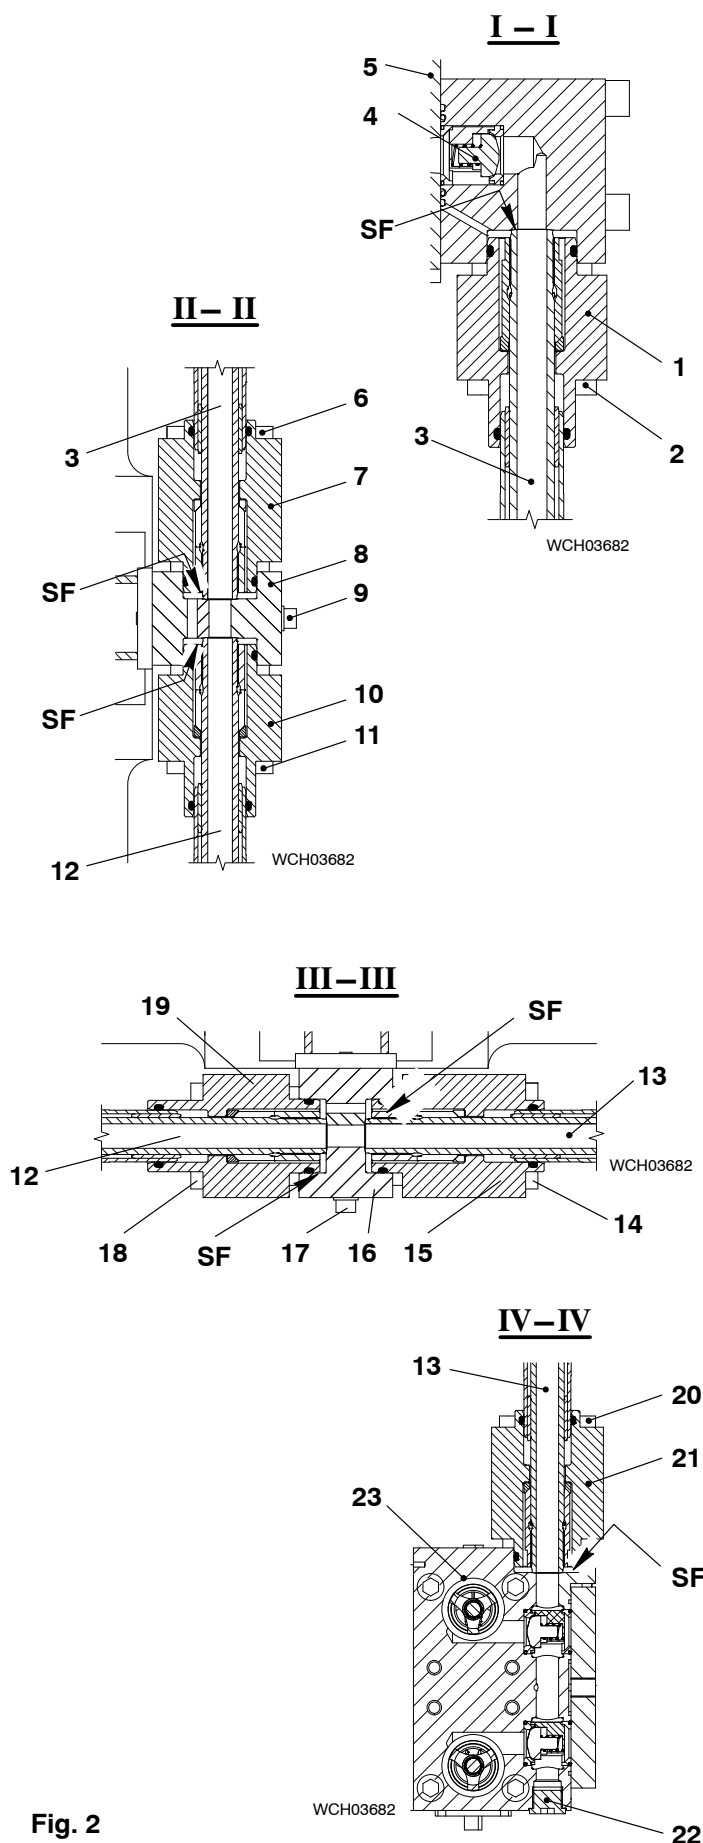

Fig. 2
- 4) Loosen the screw plug (22, Fig. 2) to drain the HP servo oil pipes (3, 12 and 13).
- 5) On the flange (1), loosen the four screws (2).
- 6) Push down the flange (1) to get air into the HP servo oil pipe (3).
- 5) Remove the two screws and washers (17) from the intermediate piece (16).
- 6) Carefully remove the HP servo oil pipe (13).
- 7) Apply protection to the sealing faces (SF) to prevent damage.
- 8) Remove the four screws (18) from the flange (19).
- 9) Move the flange (19) away from the intermediate piece (16).
- 10) Remove the intermediate piece (16).
- 11) Remove the four screws (11) from the flange (10).
- 12) Move the flange (10) down.
- 13) Carefully remove the HP servo oil pipe (12).
- 14) Apply protection to the sealing faces (SF) to prevent damage.
- 15) Loosen the two screws (9, Fig. 2) on the intermediate piece (8).
- 16) Remove the four screws (6) from the flange (7).
- 17) Move the flange (7) up.
- 18) Remove the four screws (2) from the flange (1).
- 19) Carefully remove the HP servo oil pipe (3) from the valve housing (5).
- 20) Apply protection to the sealing faces (SF) to prevent damage.